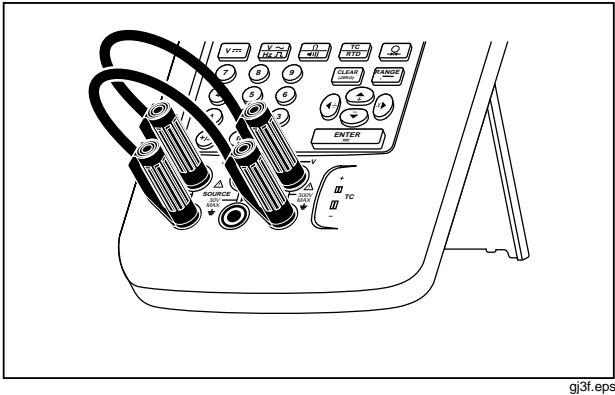

Figure 3. Jumper Connections for Demonstration
3. Connect the calibrator's voltage output to its voltage input as follows: connect leftmost pair of jacks (V Ω RTD SOURCE) to the right most pair of jacks (V MEAS). (See Figure 3.)